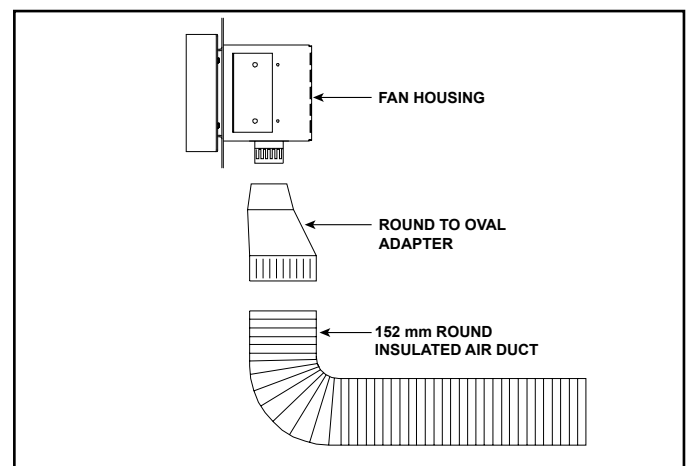

Figure 5.9 Duct Attachment
- ROUND AIR DUCT:** Attach the 152 mm round air duct (supplied in the kit) to the heater collar and run the duct to the fan housing. Attach the round-to-oval adapter to the fan housing and the air duct to the adapter. See Figure 5.9.